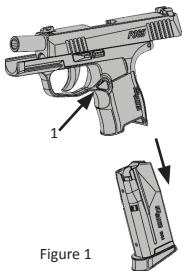

Figure 1
3. Depress the magazine catch and remove the magazine (Figure 1, Item 1).